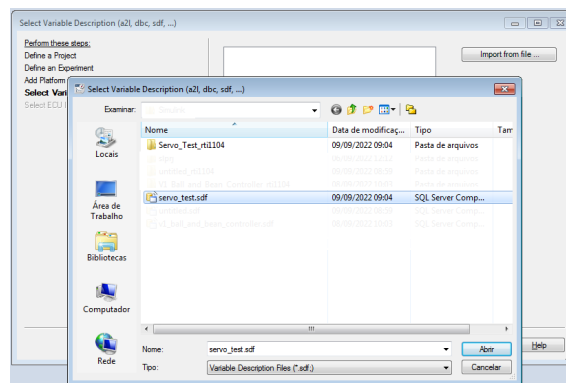

Figure 44: Select variable description
- To associate the variables from the Simulink model with ControlDesk, the **.sdf** file generated during the compilation of the code done previously must be imported by pressing the button 'Import from file...', and selecting it, as seen in figure 44. After this is done, press 'Finish'.